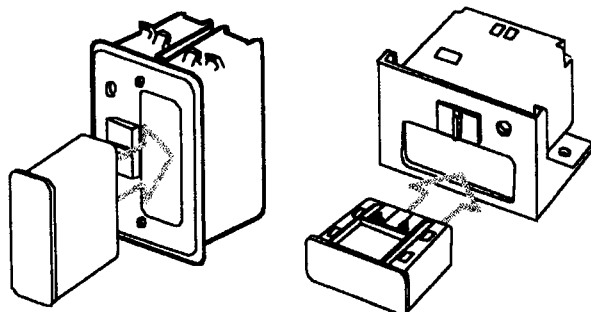

Figure 5
6. Slide the battery compartment into the Remote Receiver. See Figure 5.